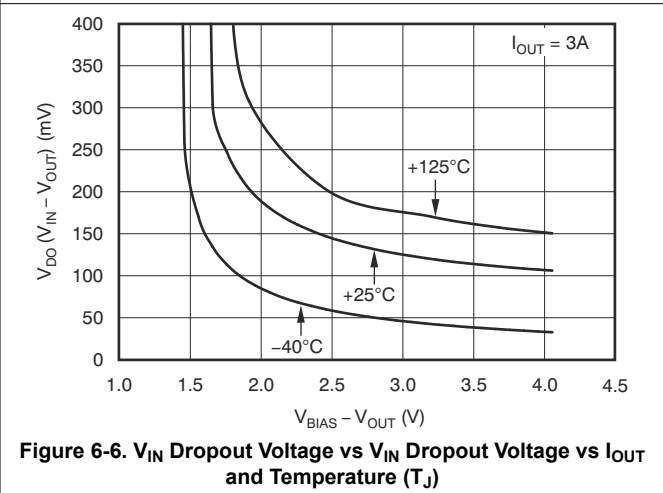

Figure 6-6. V_{IN} Dropout Voltage vs $V_{BIAS} - V_{OUT}$ and Temperature (T_J)
- (1) Adjustable devices tested at 0.8 V; resistor tolerance is not taken into account.
(2) Dropout is defined as the voltage from V_{IN} to V_{OUT} when V_{OUT} is 3% below nominal.
(3) 3.25 V is a test condition of this device and can be adjusted by referring to Figure 6-6.